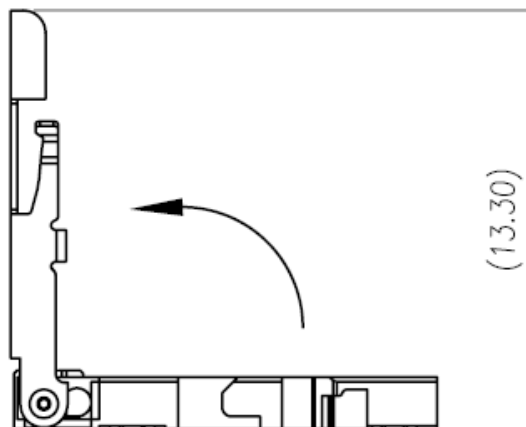

Figure 2-3
- Long press the “Reset button” shown in Figure 2-3 for 10 seconds when the device is power on if the device needs to restore to factory setting.
- If the device needs to use WPS function, please short press the “Reset button” shown in Figure 2-3 for 1~2 seconds when the device is power on, press the WPS button of the router, generally the device can connect to corresponding router within 1 minute (only supported by some models).
1. Find the installation slot of Micro SD card and open the slot according to the direction shown in Figure 2-3.